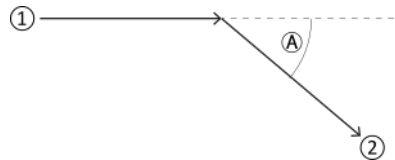

Figure 11.2: Angle in change of direction
Legend of figure 11.2 on page 166 : (1) Pre-joint line, (2) Post-joint line, (A) Angle